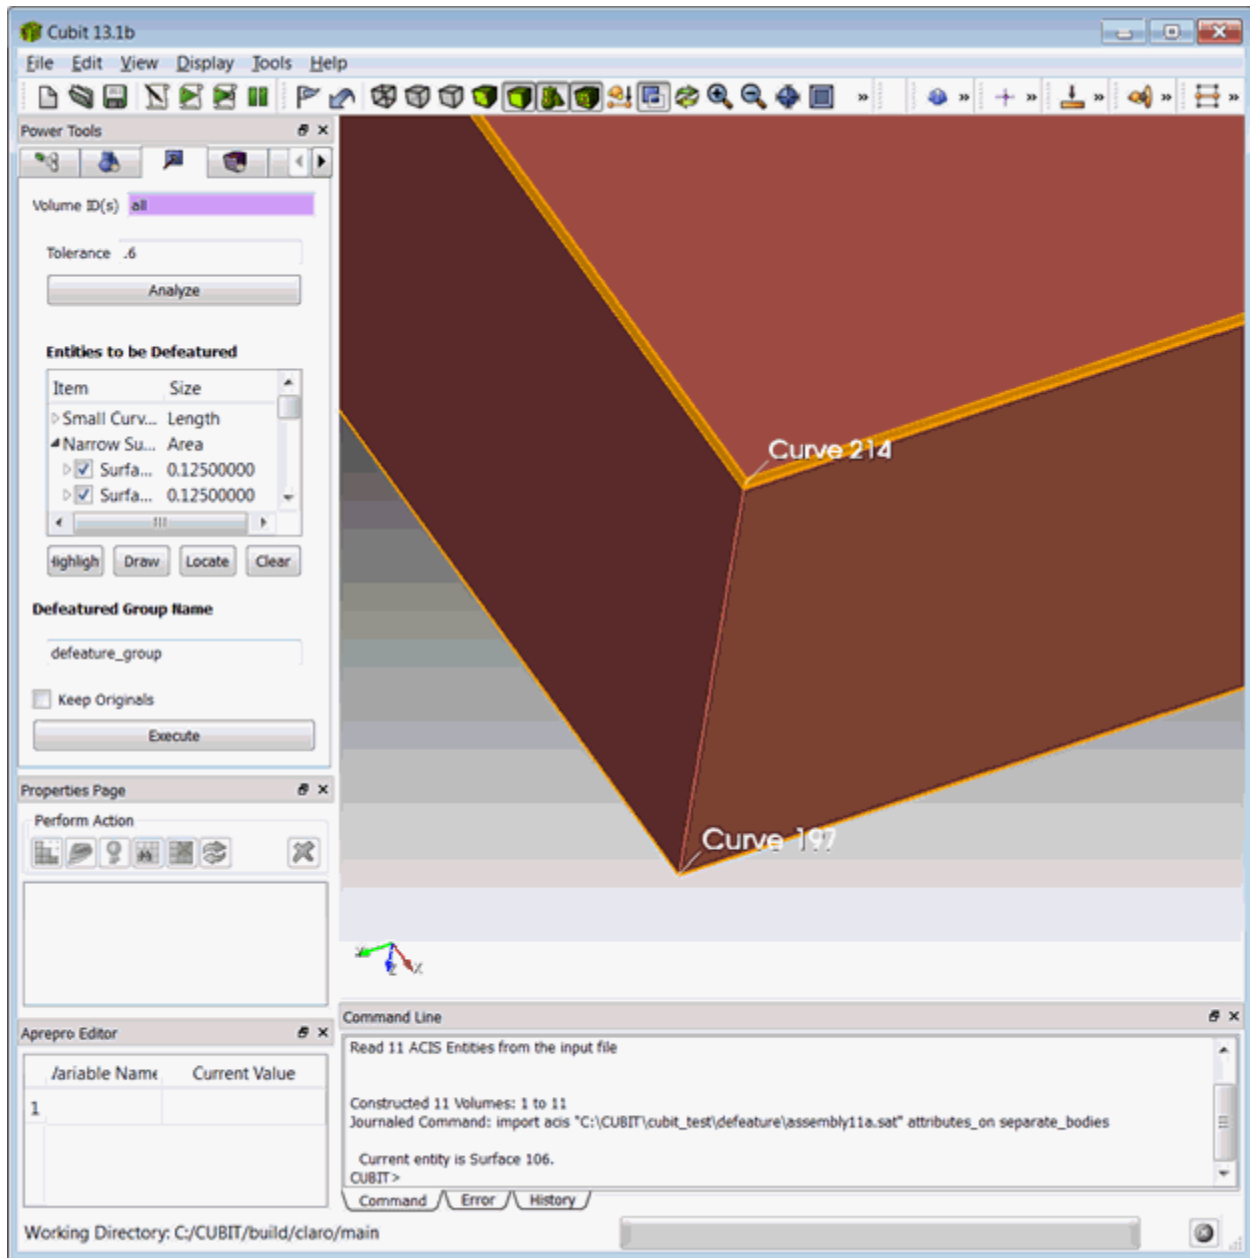

Figure 3: Zoom view of a small curve and surface
1. Clicking “Analyze” button will automatically find small curves and surfaces in the volumes specified. Figure 2 shows the highlighted small curves and surfaces with the label information. Figure 3 shows a zoom view of a small surface.